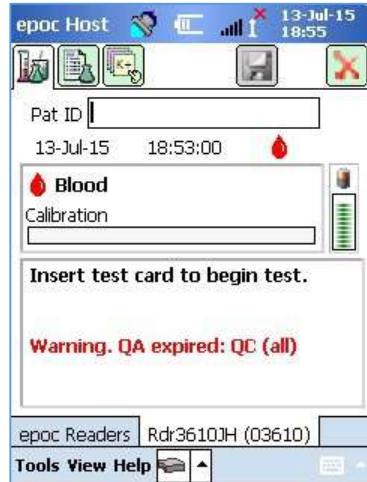

Fig. 43.
- A warning will be displayed when the schedule is expired (Fig. 43).